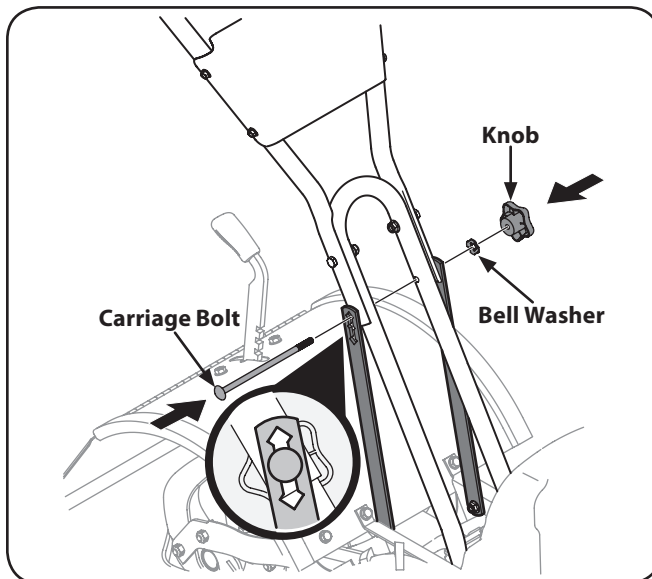

Figure 3-3
- Loosely attach the support brackets to the outside of the handlebar assembly using the carriage bolt, bell washer and knob. Refer to Figure 3-3.